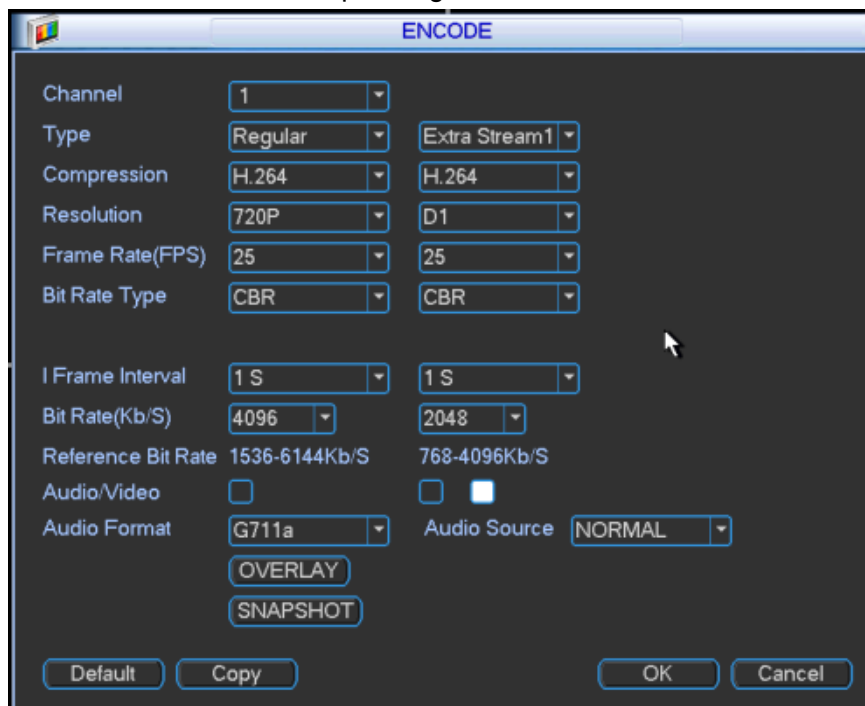
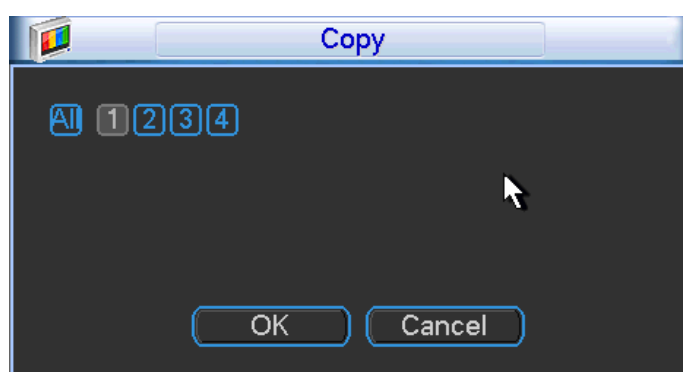

Figure 5-8
Figure 5-11
Encode setting includes the following items. See Figure 5-8.
- Copy: After you complete the setup, you can click Copy button to copy current setup to other channel(s). You can see an interface is shown as in Figure 5-11. You can see current channel number is grey. Please check the number to select the channel or you can check the box ALL. Please click the OK button in Figure 5-11 and Figure 5-8 respectively to complete the setup. Please note, once you check the All box, you set same encode setup for all channels. Audio/video enable box, overlay button and the copy button is shield.